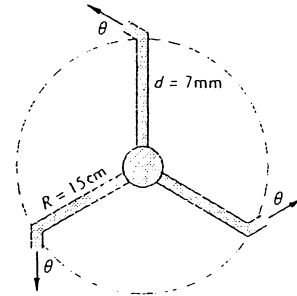

Fig. P3.114
3.114 The 3-arm lawn sprinkler of Fig. P3.114 receives 20°C water through the center at 2.7 m³/hr. If collar friction is neglected, what is the steady rotation rate in rev/min for (a) $\theta = 0^\circ$; (b) $\theta = 40^\circ$?